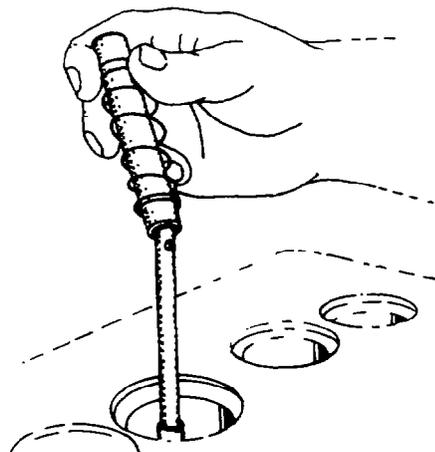

Fig. 29 — Installing Sleeve over Pilot
2. Install the sleeve over the pilot (see Fig. 29).